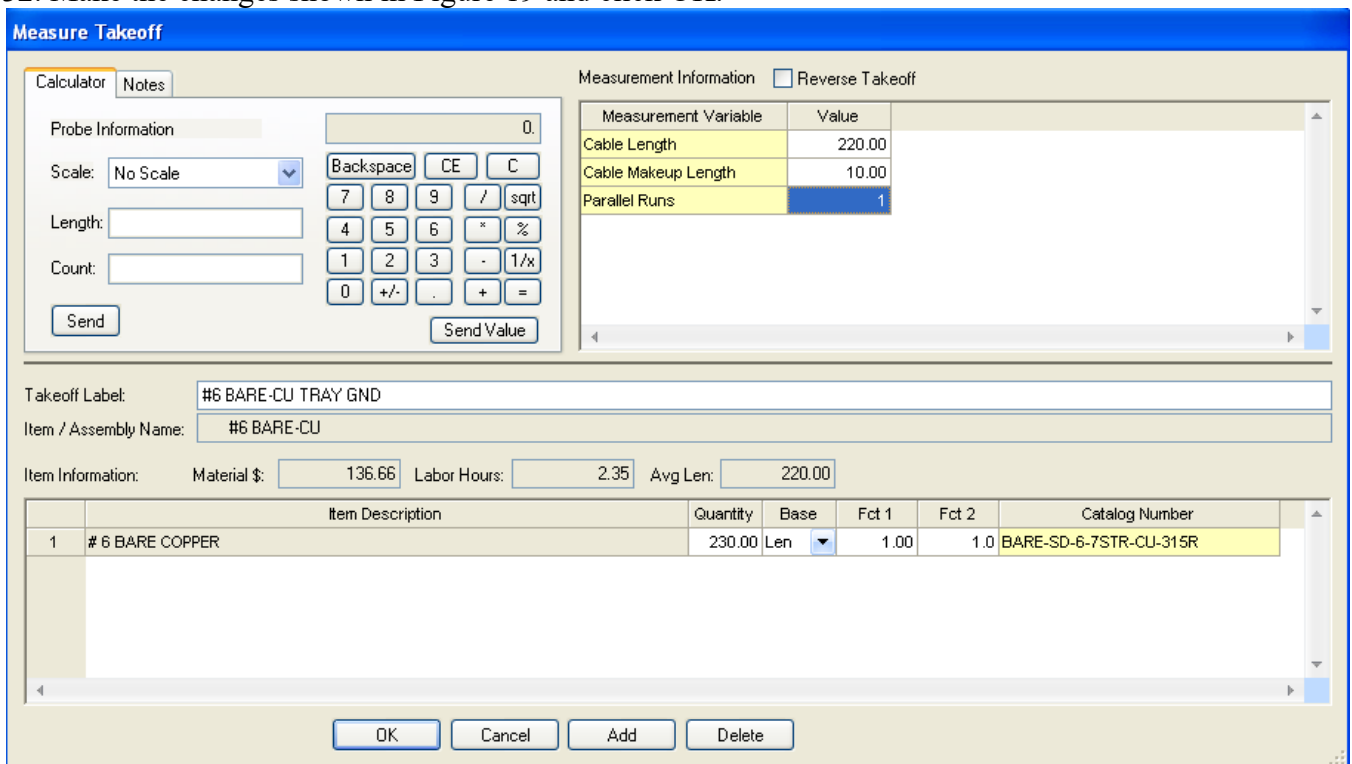

Figure 19
32. Make the changes shown in Figure 19 and click OK.